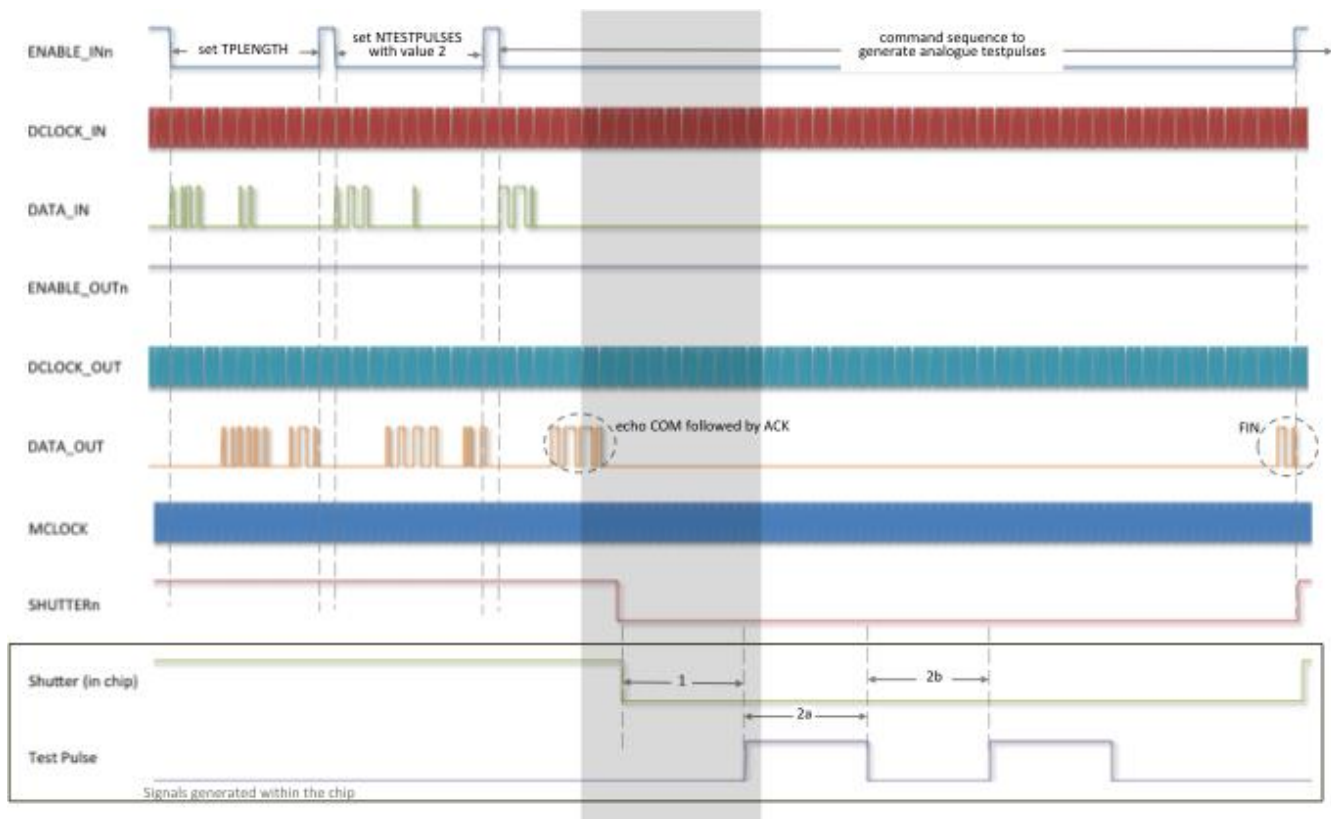
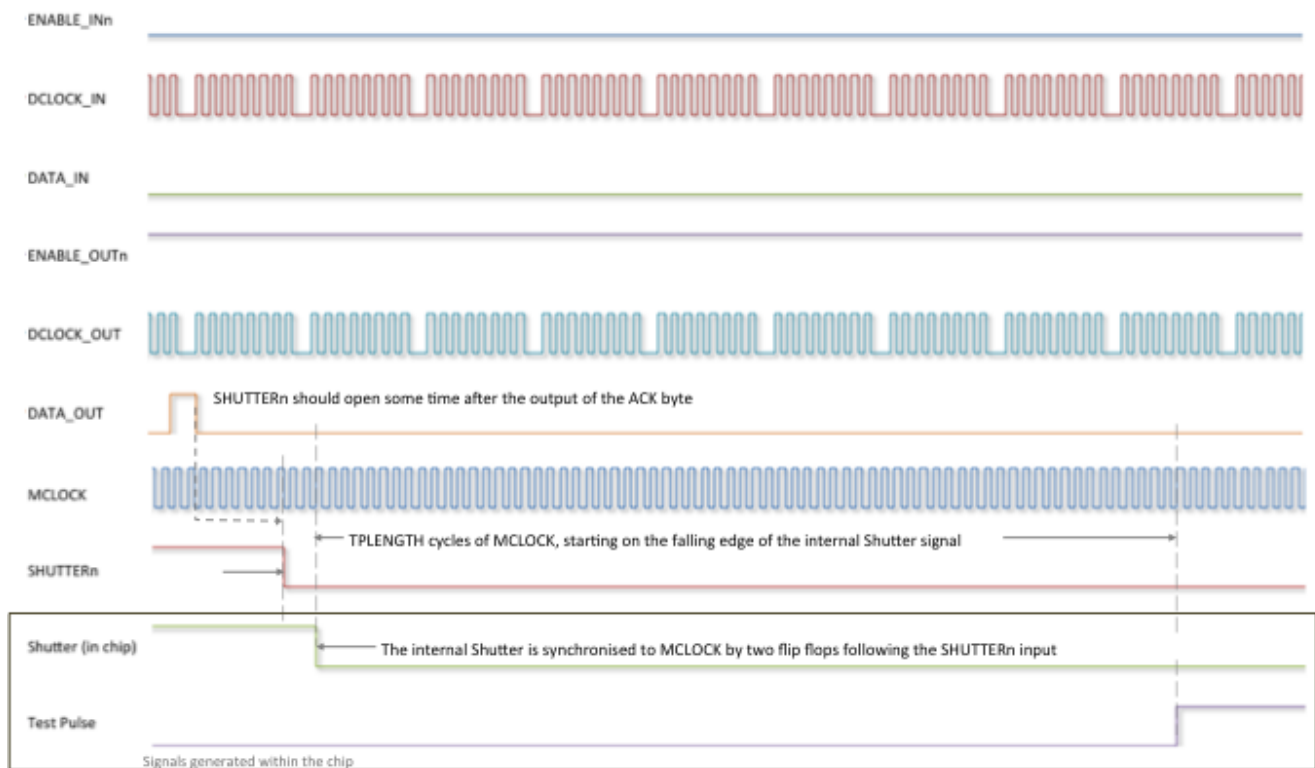

Figure 21. Command protocol and timing of internal signals for test pulse generation
Figure 22. Test pulse generation (zoomed in to the shaded region of Figure 21)
Figure 21 and Figure 22 illustrate the test pulse generation protocol:
- The Test Pulse starts $TLENGTH \times Period_{MCLOCK}$ following the opening of the internal Shutter signal (Figure 21, zone 1)
- The Test Pulse stays high for $TLENGTH \times Period_{MCLOCK}$, from rising edge to rising edge of MCLOCK (Figure 21, zone 2a).
- The Test Pulse stays low for $TLENGTH \times Period_{MCLOCK}$, (50% duty cycle) from rising edge to rising edge of MCLOCK (Figure 21, zone 2b). The delay between the final Test Pulse and the output of the FIN byte provides the frontend enough time to complete processing of the charge injected by the final falling edge of Test Pulse.